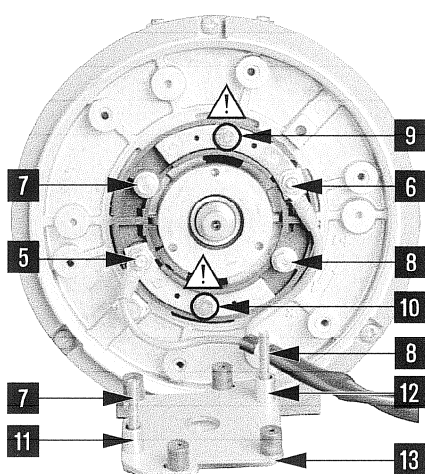

Fig. 2
4. Arrange the connecting cables according to fig. 2 by loosening and re-tightening the screws [5] and [6] (7 mm). Remove the screws [7] and [8] (7 mm).
5. Install the two screws M4 × 30 mm incl. washers (from screws [7] and [8]) as well as the brass distance bushes [11] and [12] to the damping yoke [13], according to the lower part of fig. 2; lightly grease the threads.